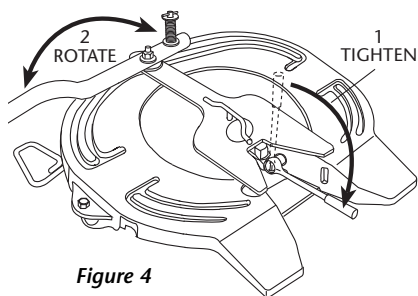

Figure 4
- Using a 15/16" socket, tighten the locks by turning the lock adjustment bolt clockwise 1/4 turn at a time. Remove the socket wrench from the bolt and rotate the lock adjustment tool, as shown in *Figure 4*, to check for resistance between the lock and lock adjustment tool.